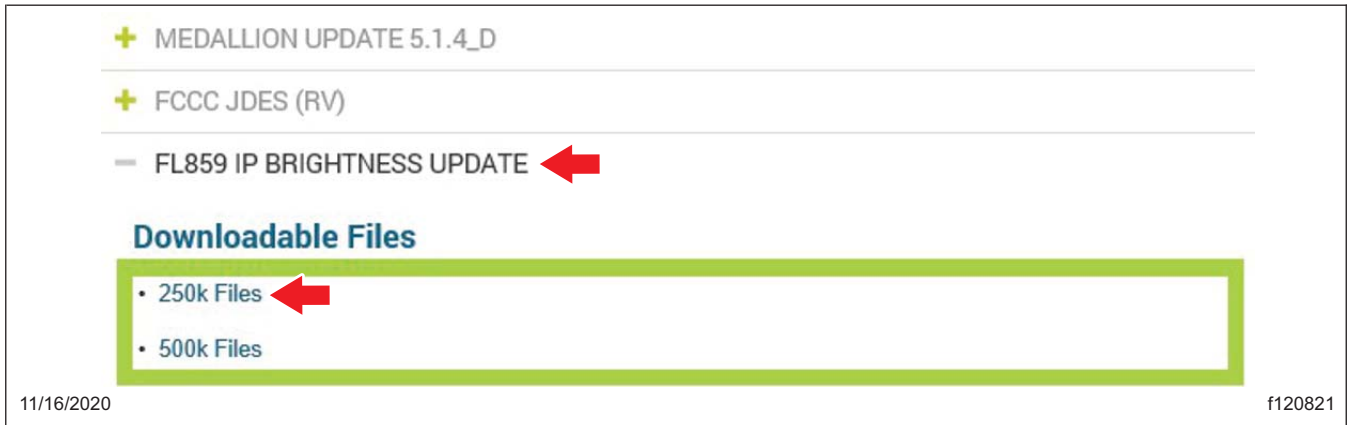

Fig. 3, Selecting the 250k Files Link
6. Scroll down to the 'FL859 IP Brightness Update' and select the '+' symbol, then select the '250k Files' link. See Fig. 3.